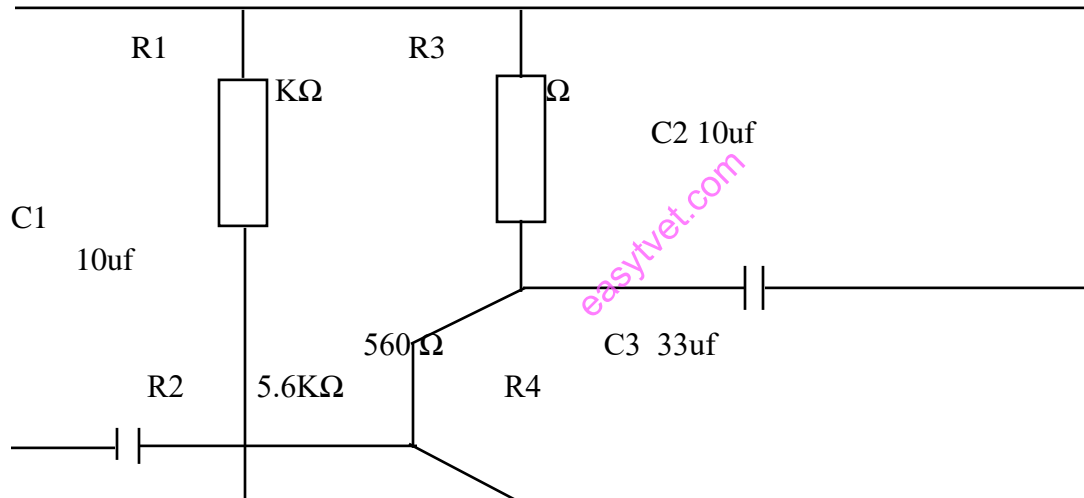

Figure 1: Single stage amplifier
- i. The trainer to construct a single stage amplifier as shown in figure 1 below